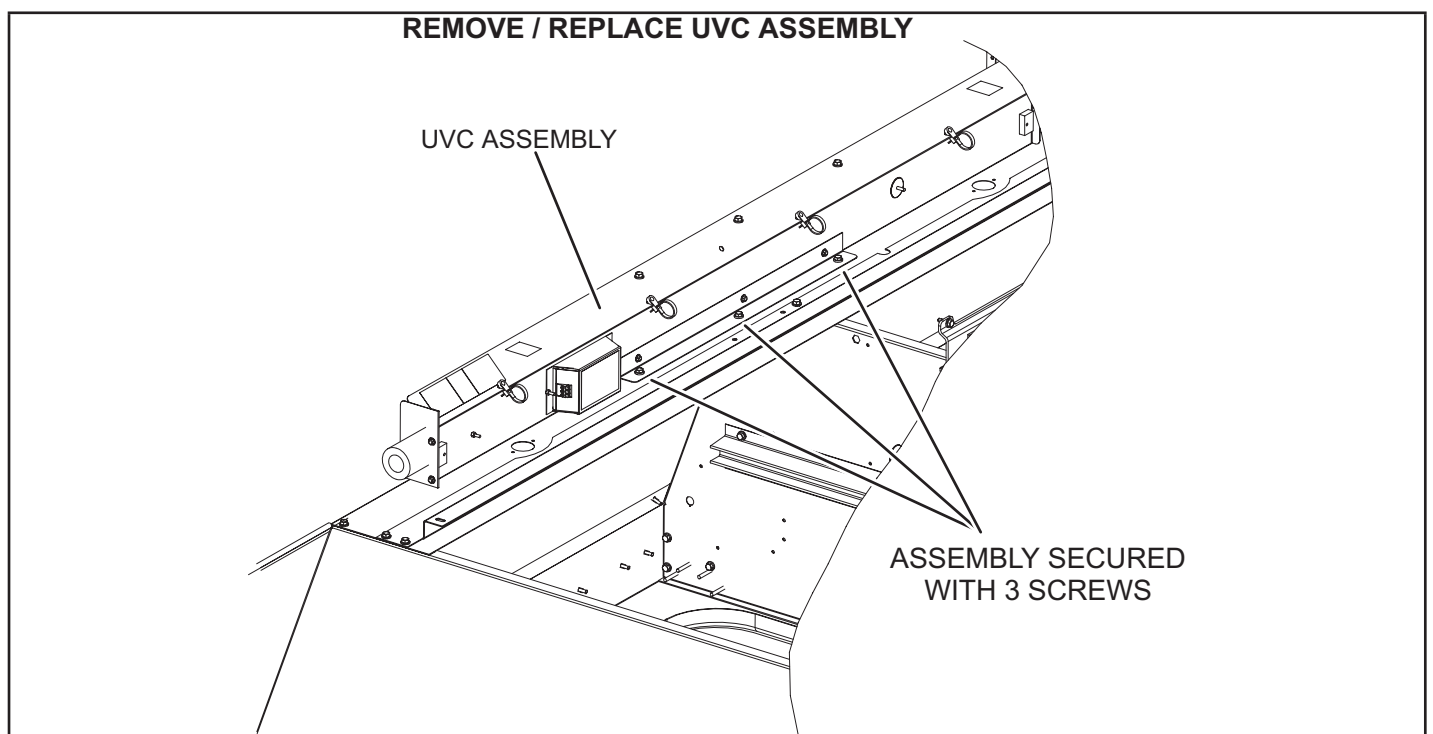

FIGURE 51
- 5 - Remove and retain the (3) mounting screws securing the UVC assembly. Carefully remove the complete UVC assembly out through the blower access door. See FIGURE 51.